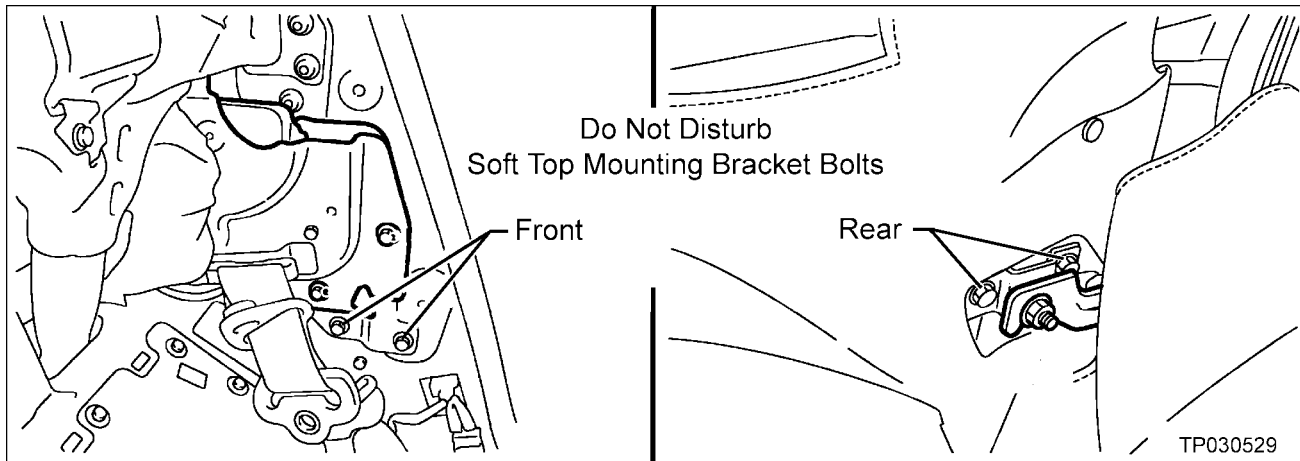

Figure 3
- **Do not “disturb”** (loosen or remove) the bolts shown in Figure 3.
- The Soft Top mounting brackets and locating sockets shown in Figures 3 and 4 are very “precisely” (accurately) adjusted at the factory to ensure proper Soft Top fit and function.